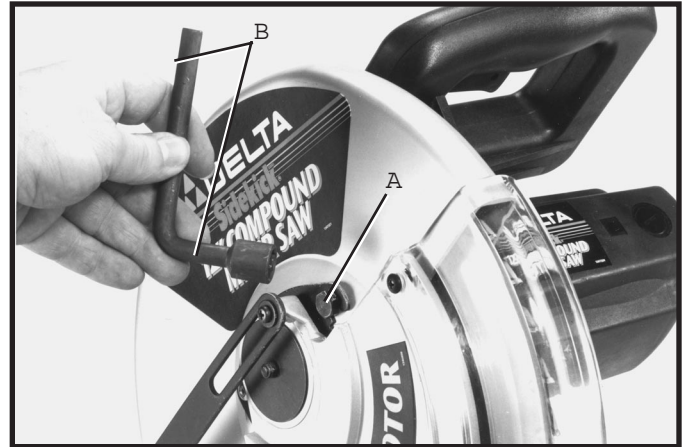

Fig. 53
3. Loosen screw (A) Fig. 53, with wrench (B) provided.